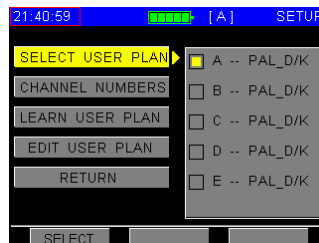

Figure 2-2-3
- Now press  on the figure 2-2-3 **CHANNEL PLAN** menu, and then press  to select the user channel plan.